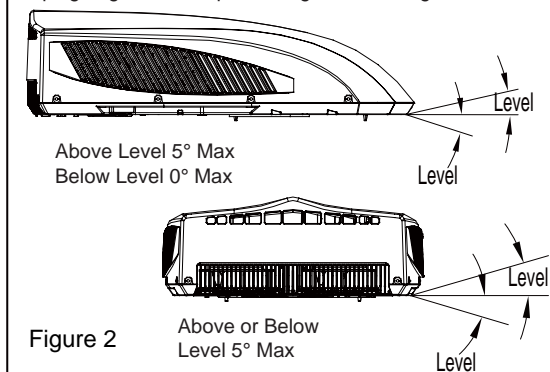

Figure 2
- 1.The roof top air conditioner must be mounted on a level plane from front to rear and side to side when the vehicle is parked on a level plane. Figure 2 shows maximum allowable degrees that the unit can be mounted above or below level.